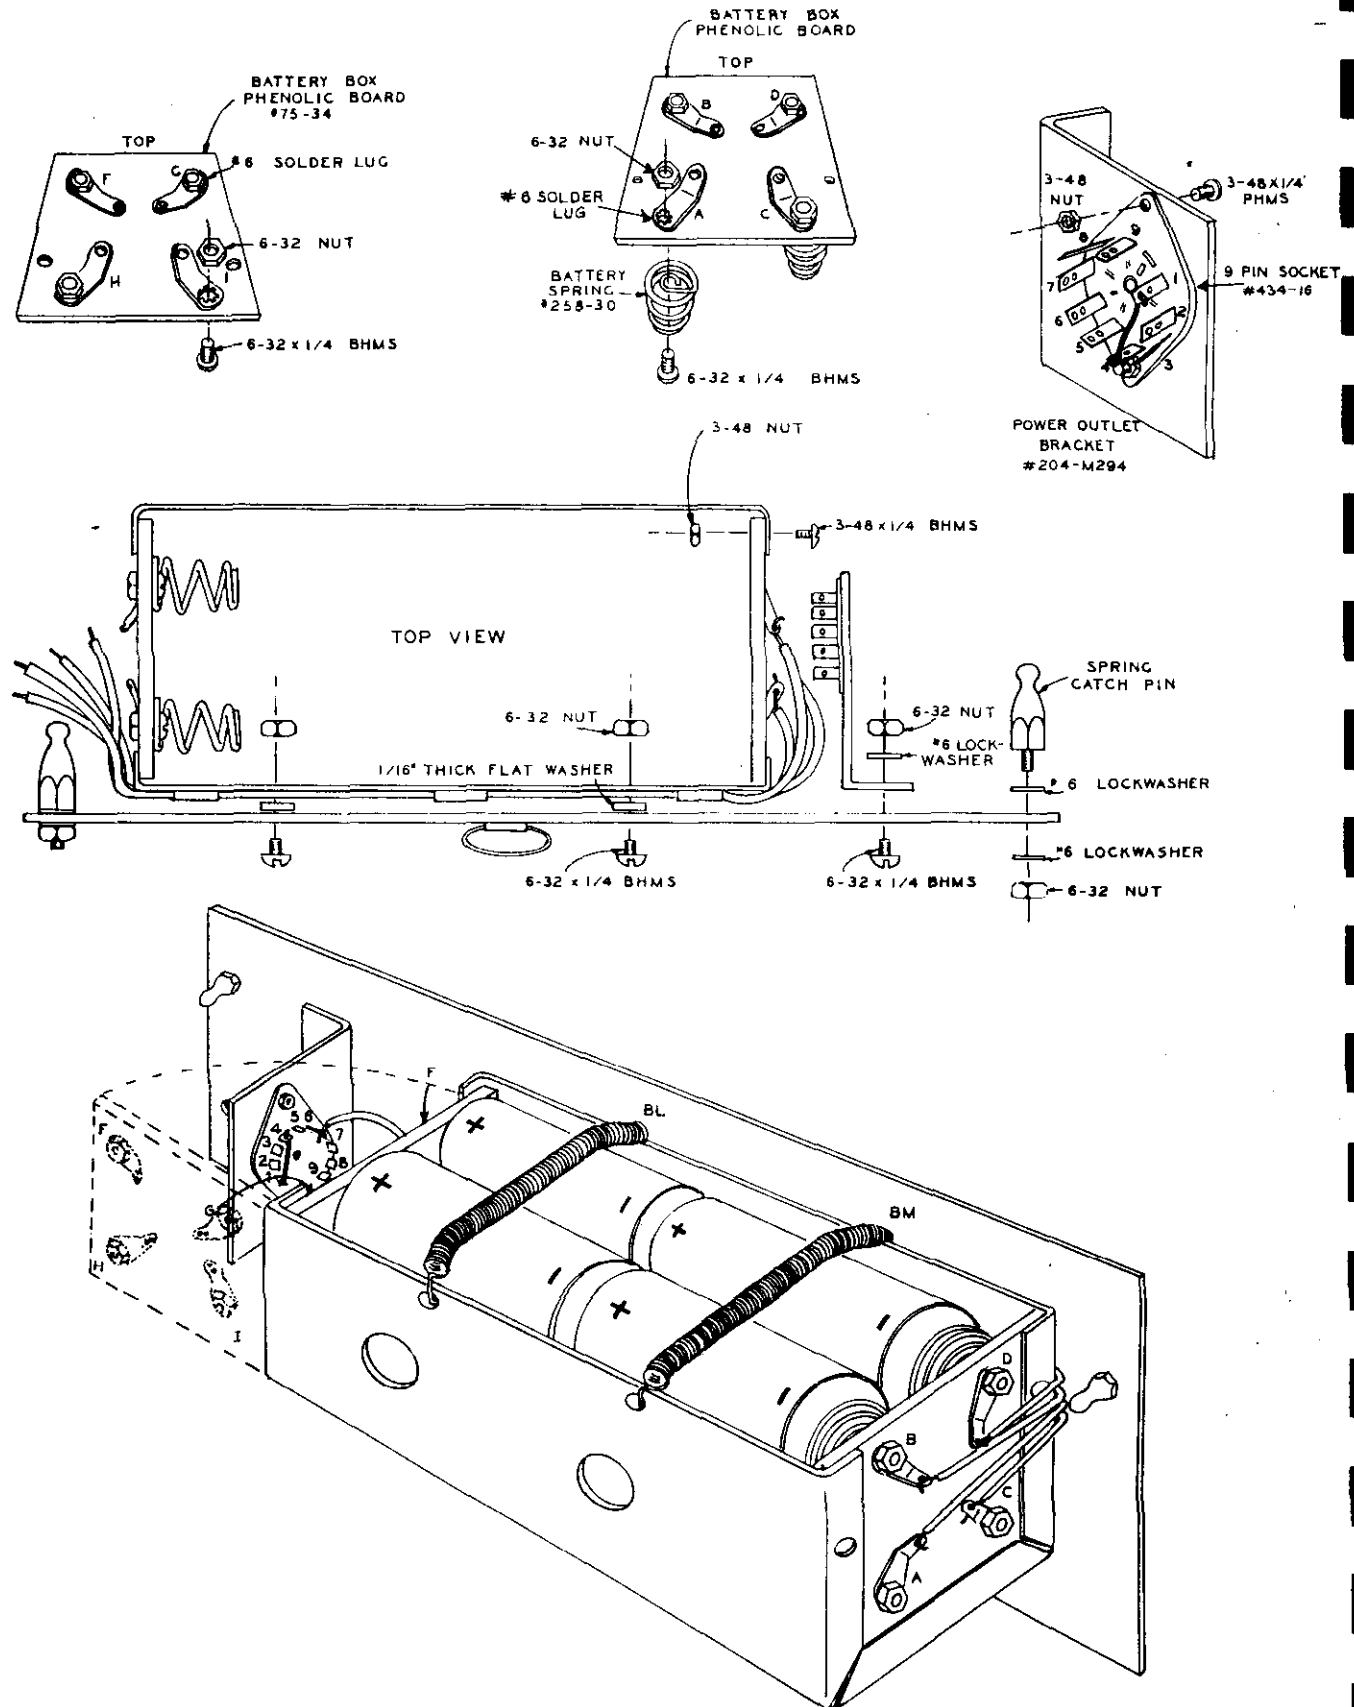

Figure 28
Refer to Figure 28. for the following steps:
- (✓) Mount the insulating boards in the battery box as shown, using 3-48 hardware. Make certain that the insulating board, with the springs installed, is at the proper end. See Figure 28.
- ( ) Now place eight size "C" cells in the battery box. These are the medium size flashlight type. All batteries are oriented in the same direction as shown in Figure 28. Snap the retaining springs BL and BM into the holes provided to keep batteries in place. Batteries are not supplied with your GC-1A due to the possibility of aging during storage.